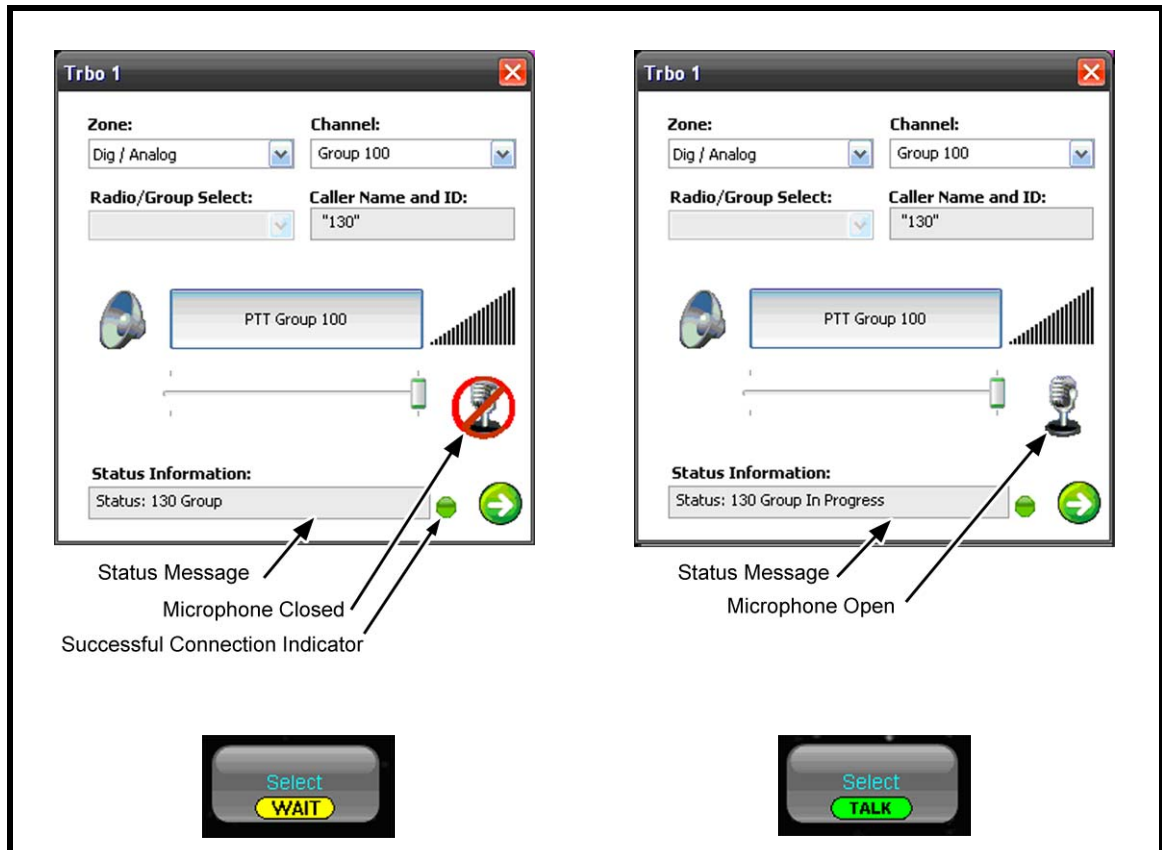

FIGURE 26. MOTOTRBO Dispatching Windows—Communication Status Indicators
- When all devices are in communication with each other, a TALK icon appears on the line's select button, the universal symbol no longer appears on the microphone icon, and the Status Information field includes In Progress to indicate the console can communicate with the radio. See Figure 26.